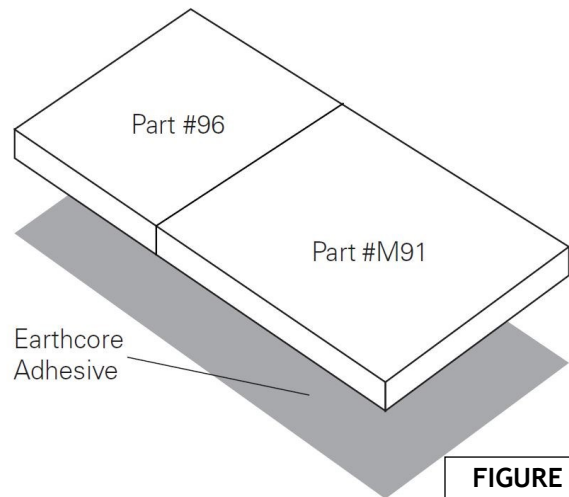

FIGURE 15
1. Apply Earthcore adhesive to the joint between part #96 and part # M91 and set the base plates in a full bed of Earthcore Adhesive on a level support surface. See page 14 for supporting floor system. **(Figure 15)**. Do not set the base plate so that it is in span. The overall length of the base plate assembly should measure 73-1/2" wide and 28" deep.